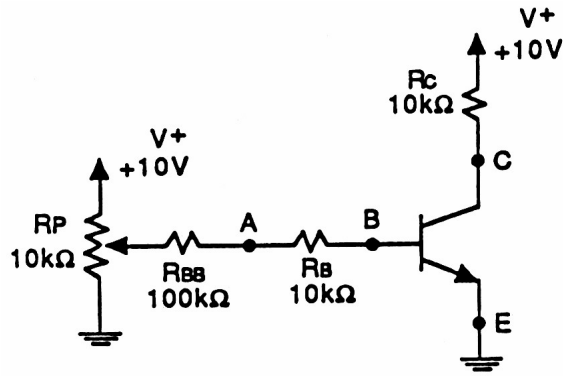

Figure 3: A Bad Base-Current-Biasing Circuit.
- Connect the circuit as shown in Fig. 3.
- Note that the circuit in Fig. 3 is not a recommended bias design.